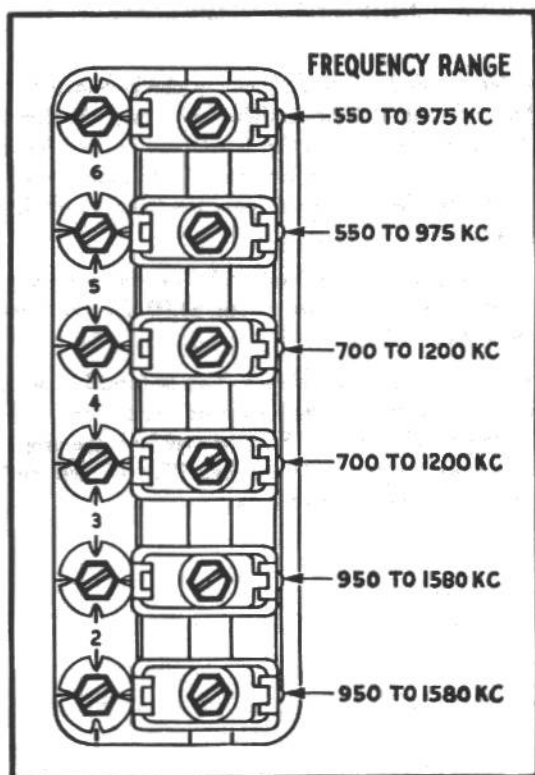

FIGURE 6
2. Select and remove from the printed call letter sheet, call letters of six popular stations received in the area in which the radio is to be operated. Select the stations within the range of each button as shown in Figure 6.
5. Remove the small cover plate on the front of the Receiver housing by prying off with a screw driver. This makes accessible the six pairs of screw adjustments for aligning the circuits to the frequency of the stations selected for automatic tuning. (See Fig. 6).
7. Tune in with the manual tuning knob the station whose call letters are in the No. 6 button. Note the program and push in this button. With a small screw driver turn the screw in the *left* row opposite No. 6 (see Figure 6) to the right or left until the same station is heard. Now adjust the screw in the *right* row opposite No. 6, for maximum volume. If in doubt about the correct station, push the "Return to Manual" button and recheck.